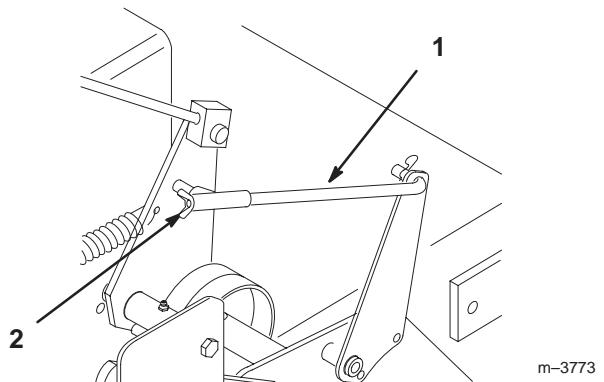

Figure 46
3. To adjust brake set the parking brake latch, and rotate the wing nuts on the brake rods (Fig. 46). Clockwise to tighten the brake and counterclockwise to loosen the brake.